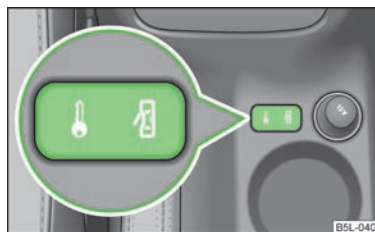

Fig. 12
If the vehicle was not locked from the outside, you can also unlock and lock it with the rocker switch » Fig. 12 without the ignition switched on.
- › Press the button in the area **1** » Fig. 12. The symbol **1** in the button comes on.
- › Press the button in the area **2** » Fig. 12. The symbol **1** in the button is no longer illuminated.